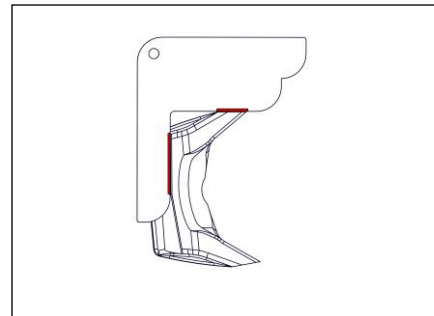

Figure 2
3. Check for gaps between the gauge and the tooth top surface (see Figure 2)